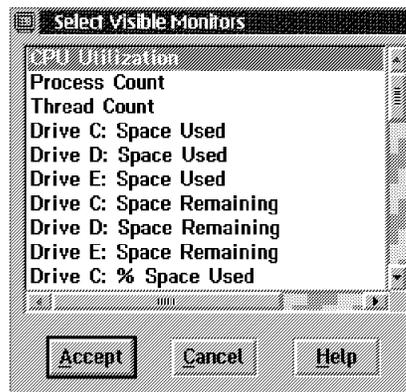

Figure 98. System Monitor List
2. From the menu, select **Windows** → **Show Monitors...**. Figure 98 will appear.